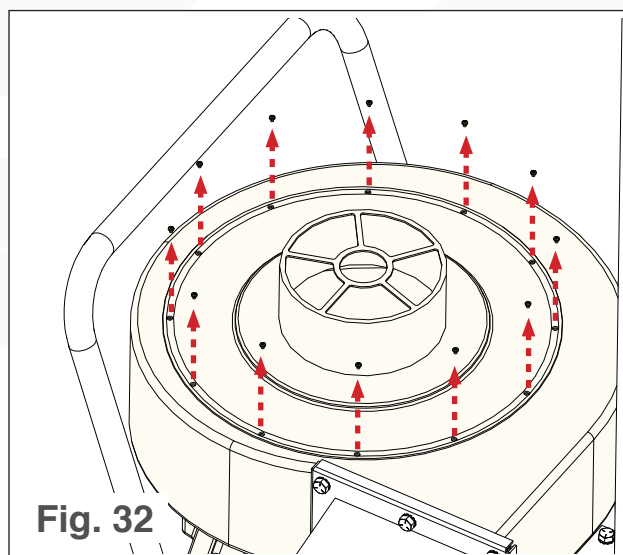

Fig. 32
- b. Remove the 12 screws on the top of the motor assembly (see Fig. 32).